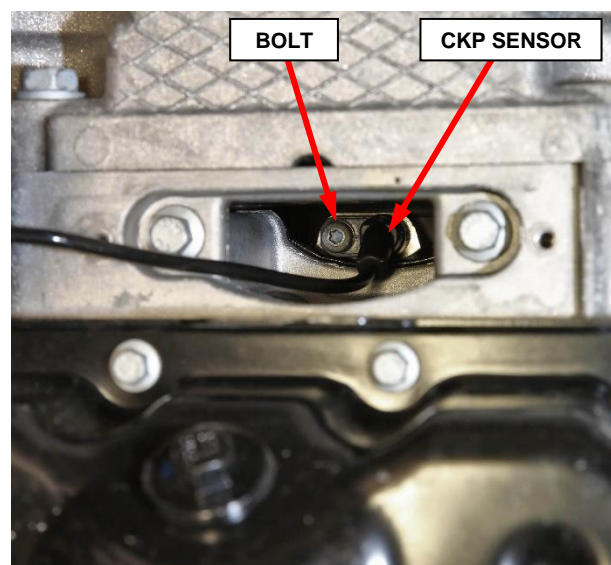

Figure 36 – Crankshaft Position Sensor
45. Remove the CKP sensor bolt and the CKP sensor (Figure 36).